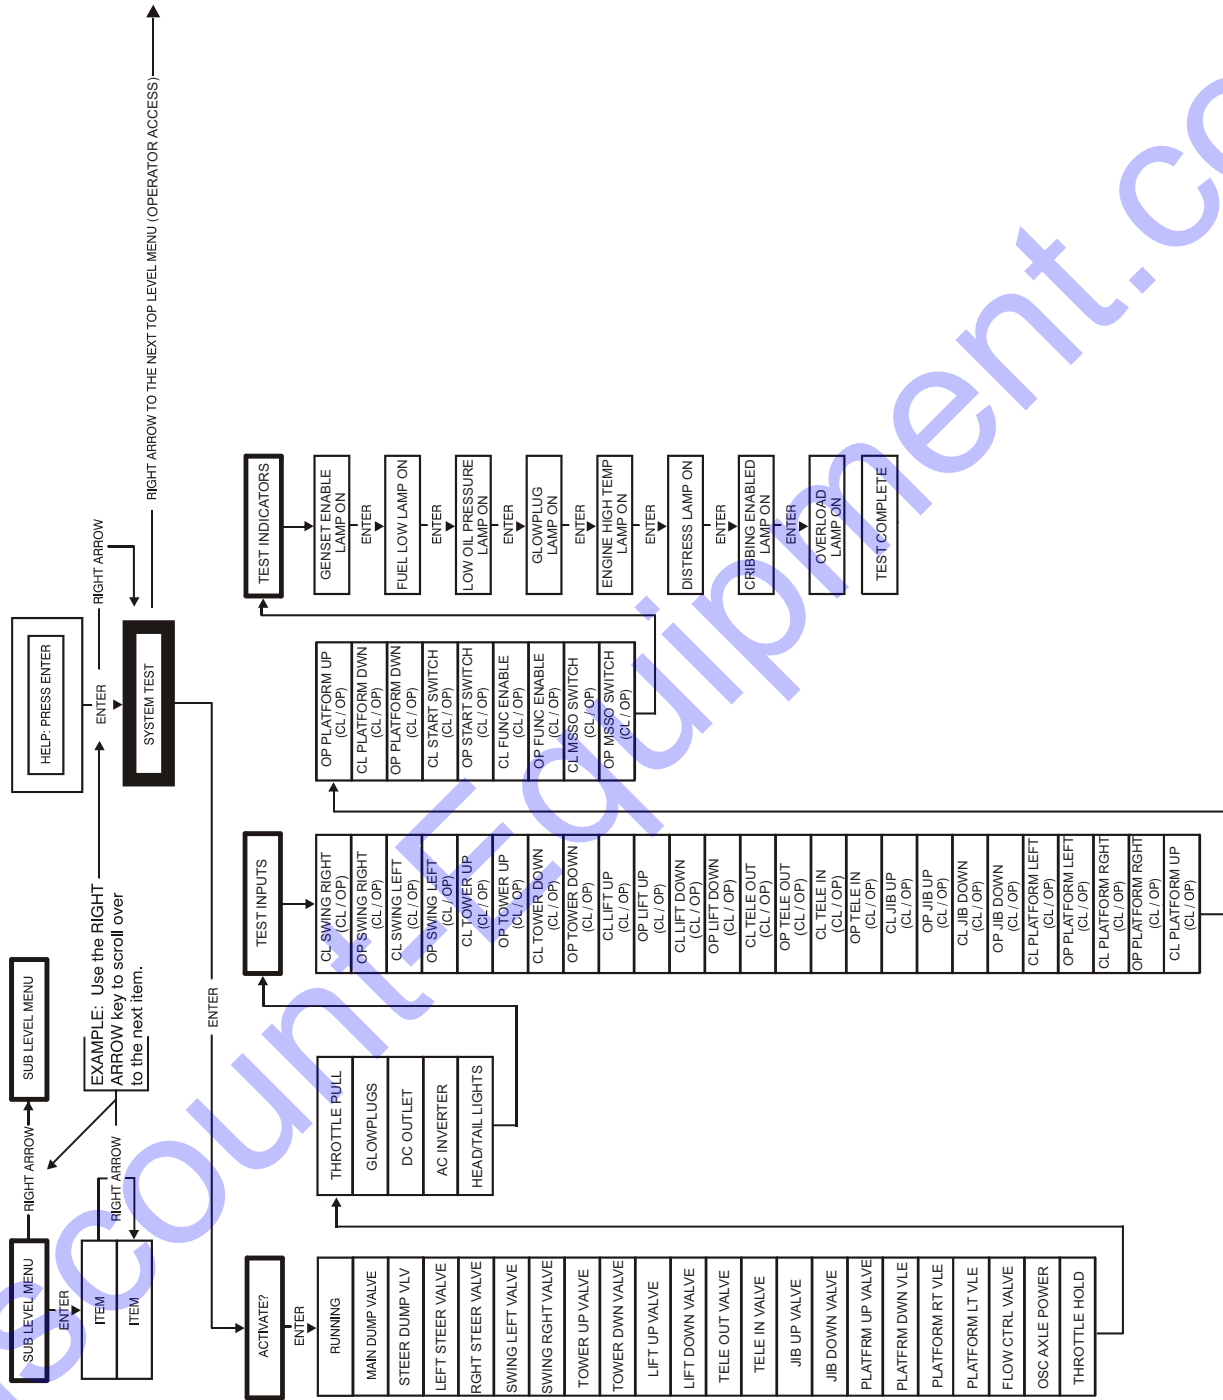

Figure 6-24. System Test Flow Chart- Ground Station Tests
6. Follow the flow path in Figure 6-24., System Test Flow Chart - Platform Tests and go through the component tests. Hit the ESC key during any part of the test to return to the main menu without completing all tests or wait until all tests are complete. During the TEST ALL INPUTS sequence, the analyzer allows control switches to be operated and shows if they are closed (CL) or open (OP).